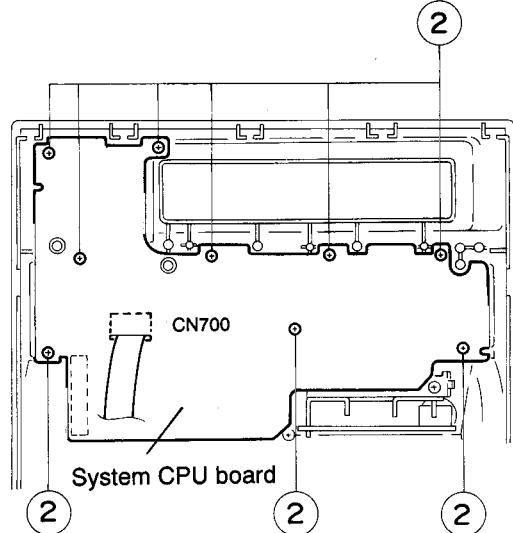

Fig.5-22
7. Remove the nine screws ② fastening the system CPU board.(See Fig. 5-22)
- (See Figs. 5-22,5-23)